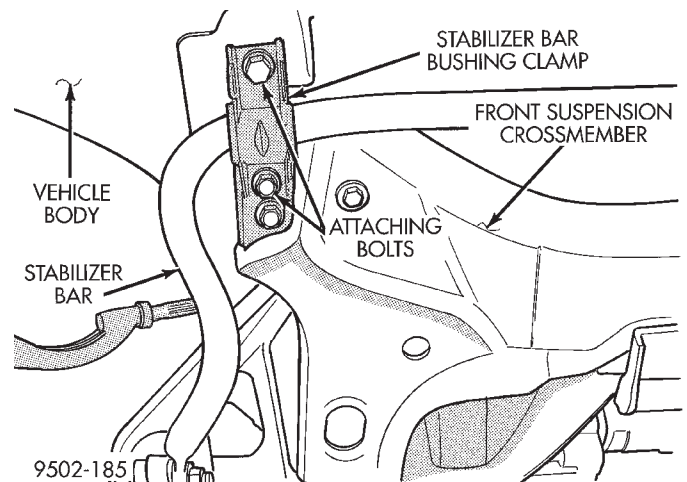

Fig. 62 Stabilizer Bar Bushing Retainer Attaching Bolts
(3) Remove the 4 bolts attaching the stabilizer bar bushing retainers to the front suspension crossmember and body (Fig. 62). Then remove the stabilizer bar assembly from the vehicle.
(1) Position stabilizer bar and bushings as an assembly into front crossmember. Install the stabilizer bar bushing retainer to crossmember and body attaching bolts (Fig. 62). Tighten the retainer bolts going through the crossmember to 163 N·m (120 ft. lbs.). Tighten the retainer bolts going to the body to 61 N·m (45 ft. lbs.).
(2) Align stabilizer bar attaching link assemblies with attaching link mounting holes in the lower control arms. Install stabilizer bar attaching links into both lower control arms. Install the attaching link to lower control arm retaining nuts. Torque the stabilizer bar attaching link nuts to 105 N·m (78 ft. lbs.).